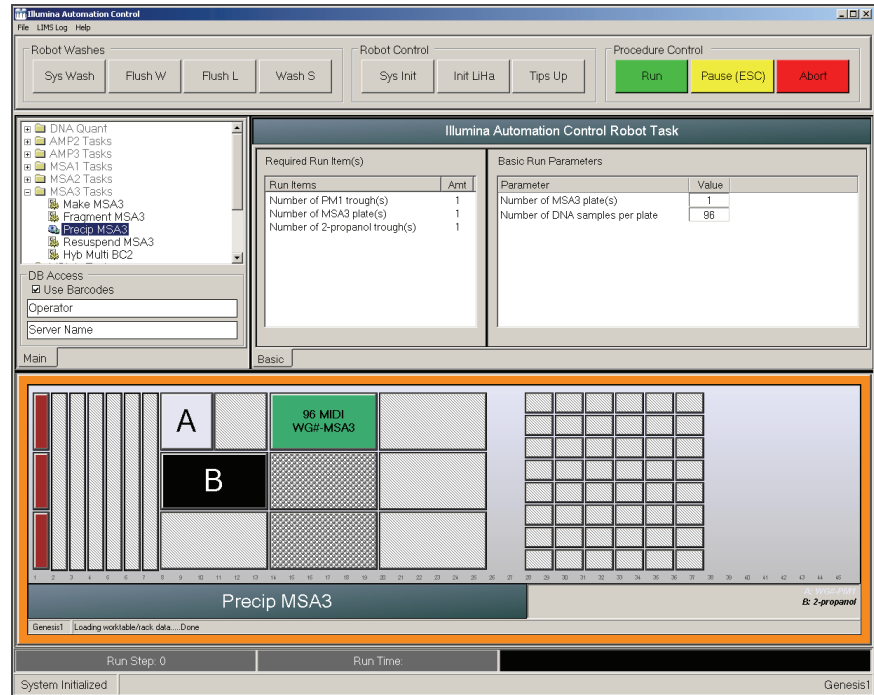

Figure 124 Precip MSA3 Screen
4. Remove the cap mat and place the MSA3 plate on the robot bed according to the bed map (Figure 124).
8. Remove the cap mat and place the MSA3 plate back on the robot bed according to the bed map (Figure 124).